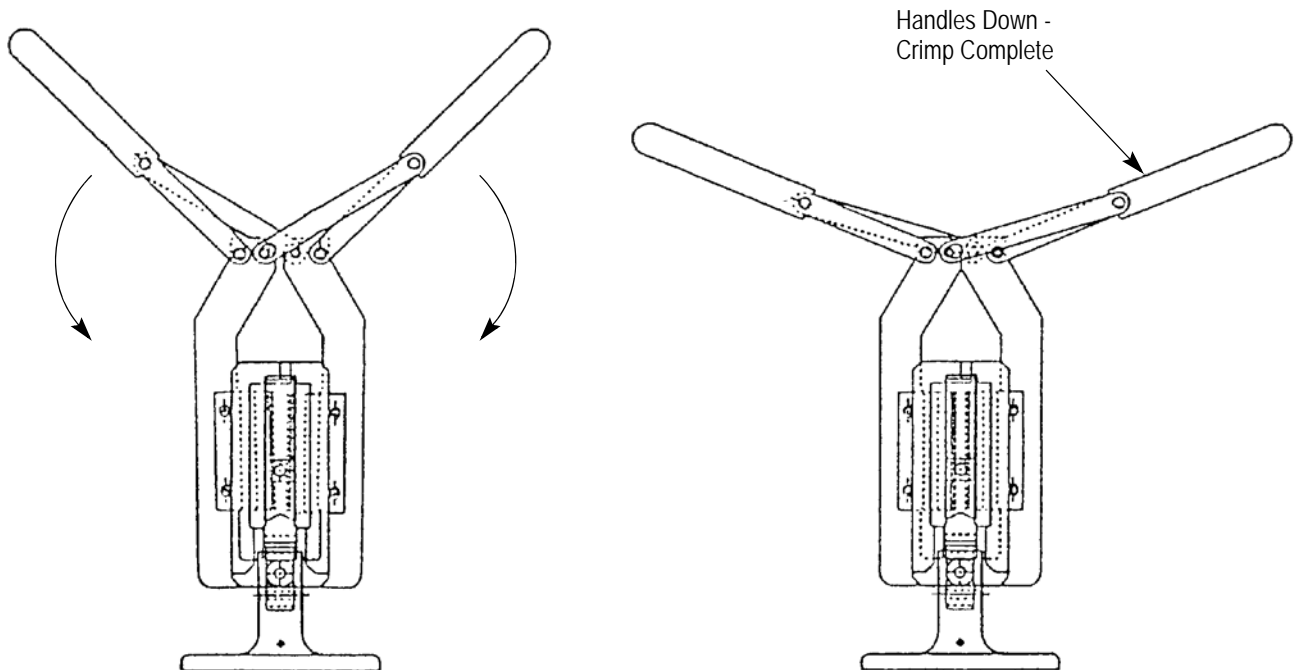

Figure 6
7. Push handles downward as shown in Figure 6. Downward movement of the handles will stop when crimp is complete.